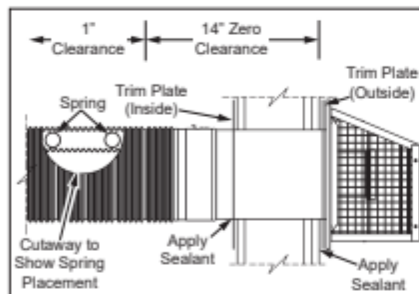

Figure 9 - Trim Plate Install
Cut a clearance hole, approximately 7" in diameter, through the exterior wall for the vent assembly. The recommended height is 64" for 40 gallon models, 73" for 50 gallon models and 74" for 50 gallon Hi-Input models, as measured from the hole center to bottom of water heater. Where the wall is combustible and the wall thickness is over 14", a 1" clearance to combustible surfaces around the vent terminal is needed. The first 14" is zero clearance (see Figure 9 on page 10).
The vent piping and the vent termination hood are to be connected as shown in Figure 8. Maintain vent clearances to combustibles as shown in Figure 9.
Some models are supplied with trim plates which may be used to cover the holes in the wall (see "Completed Installation" on page 2 and Figure 9). Slide one trim plate (if supplied) over the outer corrugated tube, then insert the outer corrugated tube through the clearance hole from exterior wall. Secure the trim plate to the exterior wall, then secure the vent terminal to the exterior wall with 4 screw anchors (included) appropriate for the type of wall construction. Caulk the junction of the vent terminal base plate and the exterior wall with exterior type sealant (not included). Slide the trim plate (inside) over the outer corrugated tube and fasten the trim plate to the interior wall. Caulk the junction of the outer corrugated tube and the trim plate (inside) with suitable sealant. The vent termination hood attaches to the vent piping as shown in Figure 8.
3. Minimum vent pipe clearance to combustibles is 1" (see Figure 9).